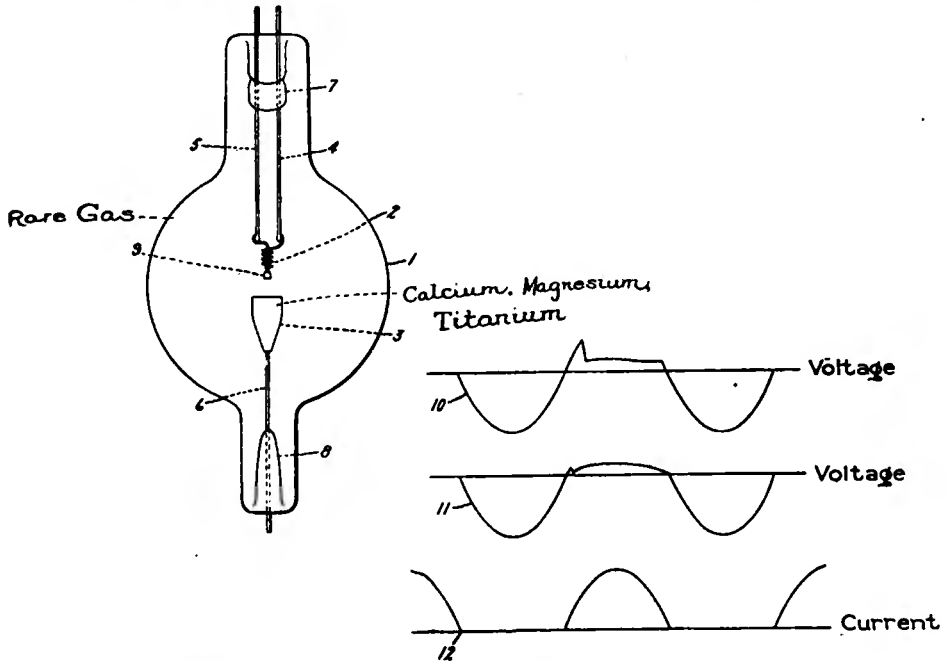

Figure 9—Inclosed arc possessing unusual low voltage drop
**A**N inclosed arc device possessing an unusually low voltage drop, as shown in figure 9, is the invention of John Clough. The device consists of a low expansion glass envelope (1), such as a sodium-magnesium, boro-silicate glass; the cath-
A remarkably low voltage is required to start the arc of figure 9. A 15-ampere arc, for example, may be formed with a potential as low as 14 volts, provided the temperature of the cathode is 2,500 degrees Centigrade.